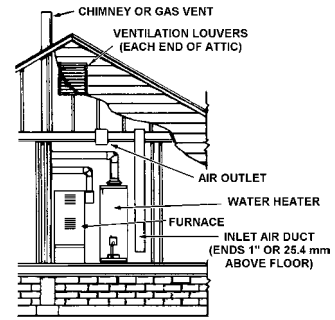

FIGURE 7.
2. When communicating with the outdoors through vertical ducts, each opening must have a minimum free area of 1 square inch per 4,000 Btu per hour (5.5 cm²/kW) of total input rating of all equipment in the enclosure, see Figure 7.